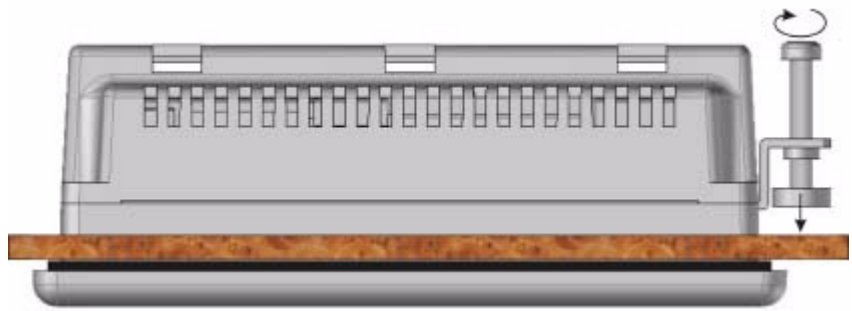

Figure 3.4: Case being fixed in panel
- 4 Insert a clamp into a mounting clamp slot on the case and tighten the screw slightly as shown in Figure 3.4: Case being fixed in panel.